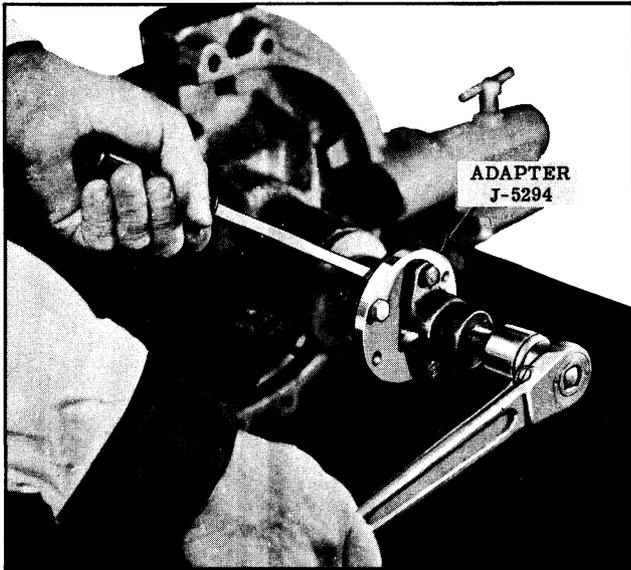

Fig. 6-17 Removing Companion Flange
13. Using companion flange puller J-962 and adapter J-5294, remove companion flange. (See Fig. 6-17)